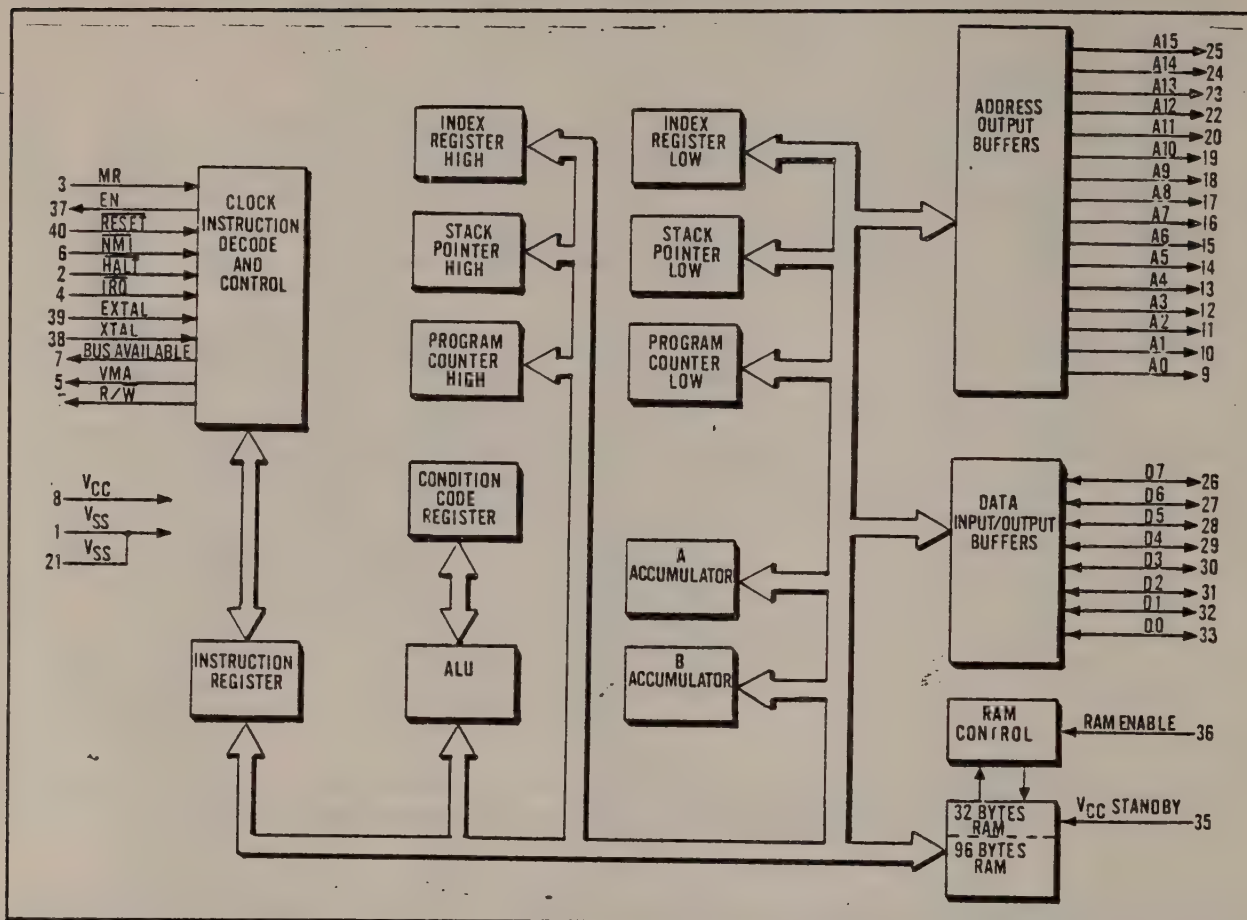

Figure 4-4. MC6802 MPU Block Diagram
4-16. Figure 4-4 provides a functional block diagram of the MPU U2. Normally the MPU would run too fast to present an address and a data byte which requires 3 μ s. (This 3 μ s period is required for the DAC optoisolators to switch and stabilize). One-shot multivibrator U16 generates a 3 μ s "STRETCH" signal to reset flip-flop U1 which stretches the MPU data byte via its "MEMORY READY" (MR) input for the required 3 μ s period.